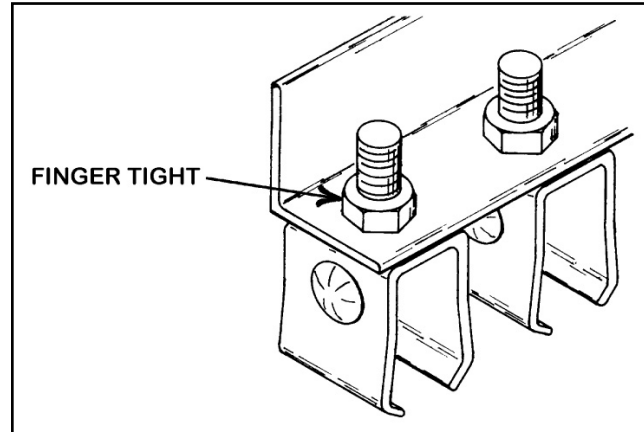

Figure 22-1
1. Install hanger and anchor clamps as required. See **Figure 22-1**.